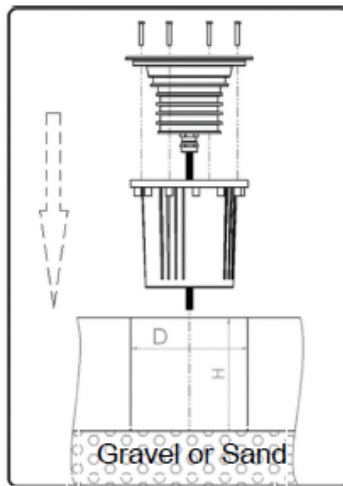

Figure 1
2. Install the luminaire as shown in the Figure 1.